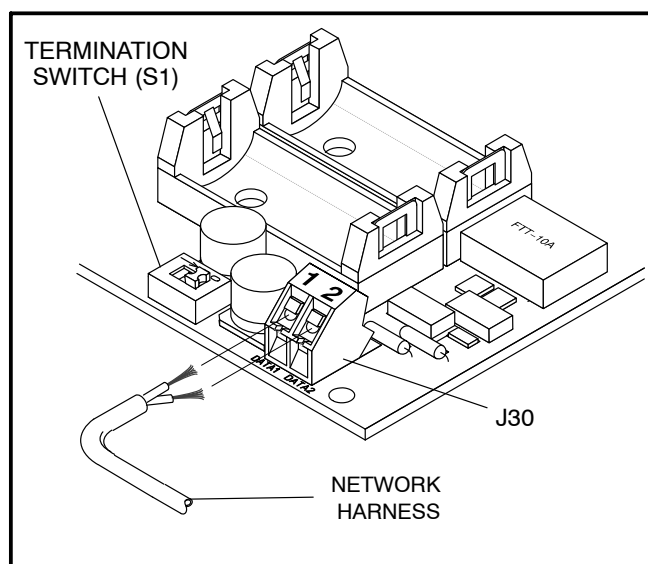

FIGURE 11-4. NETWORK HARNESS CONNECTION (EARLY PRODUCTION)
10. Attach one end of the network harness to the Data 1 and Data 2 terminals of the two-position terminal block (J30), (polarity insensitive, see Figure 11-4 or 11-3).